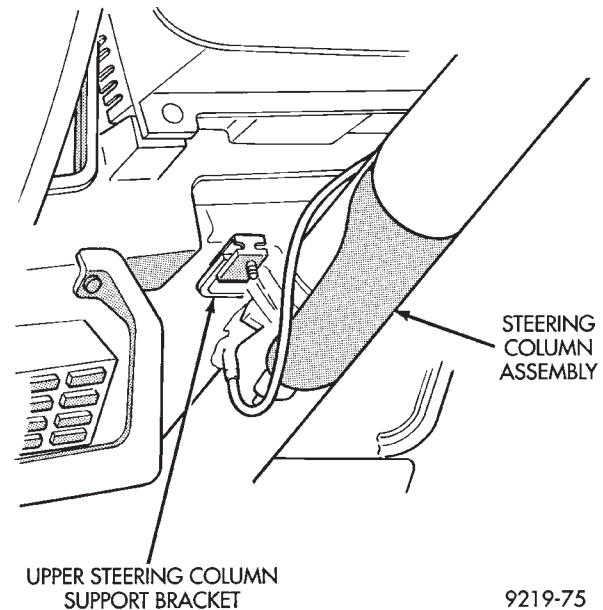

Fig. 7 Steering Column Mounting Bracket
(5) Remove the 2 nuts holding the upper steering column mounting bracket, to the steering column support bracket (Fig. 7). Lower steering column for clearance when removing lower shrouds from steering column.
(13) Make sure group clip is on left breakaway capsule. Make sure that both breakaway capsules are fully seated in the upper steering column bracket. Install the upper steering column mounting bracket onto the steering column support bracket (Fig. 7). Install the 2 upper steering column bracket to support bracket nuts and torque to 12 N·m (105 in. lbs.).